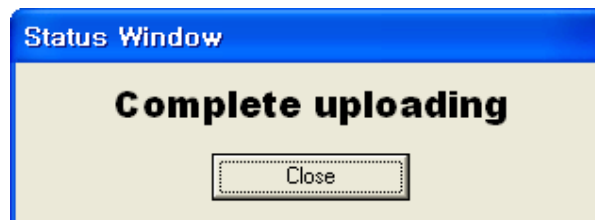

Figure 14. Complete Uploading
- ⑥ When uploading is complete, a message box with “Complete Uploading” will be displayed as shown in Figure 14.